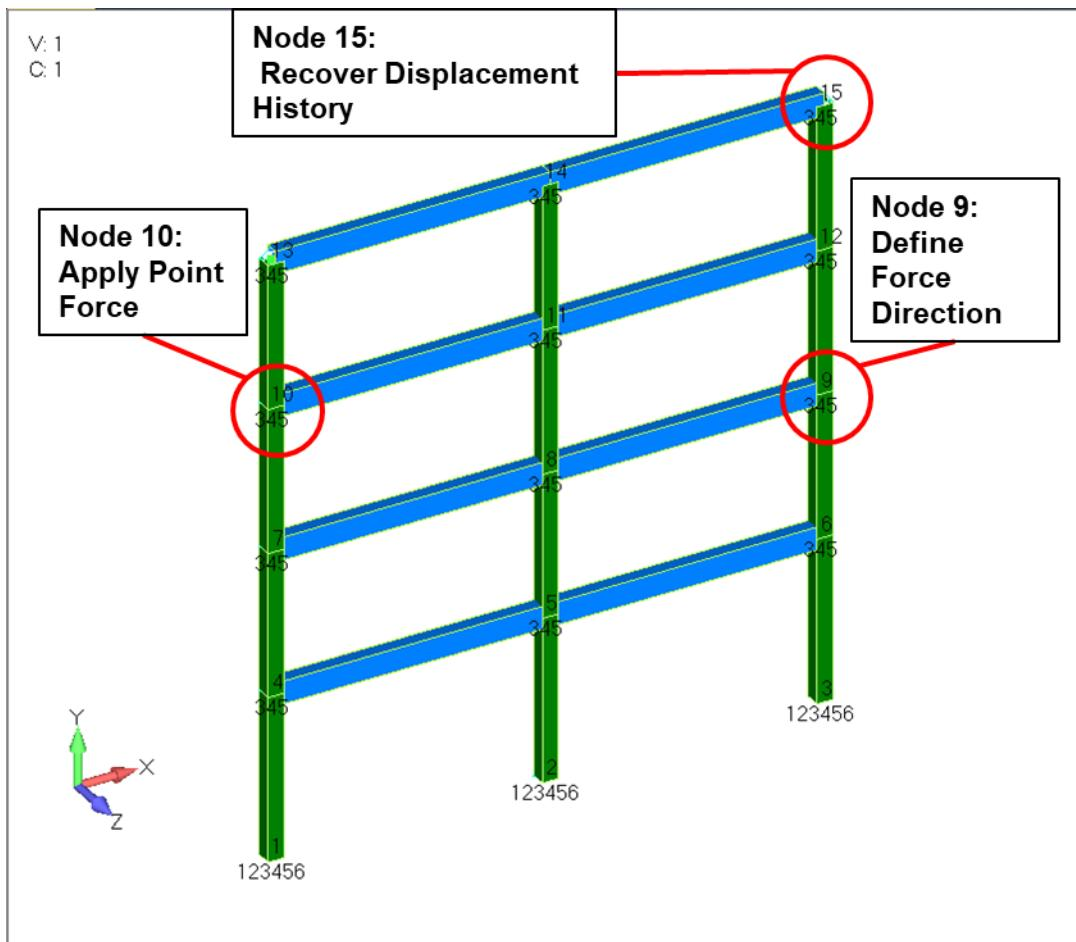

Figure 4-111. Frame model showing nodes of special interest.
1. If you have not already done so for a previous example, import the frame model “frame01_modes.dat” into Femap. Save the model file as “frame.modfem.” Figure 4-111 shows the model with notes about nodes that will be of special interest for this analysis, either for defining input or for recovering physical responses.